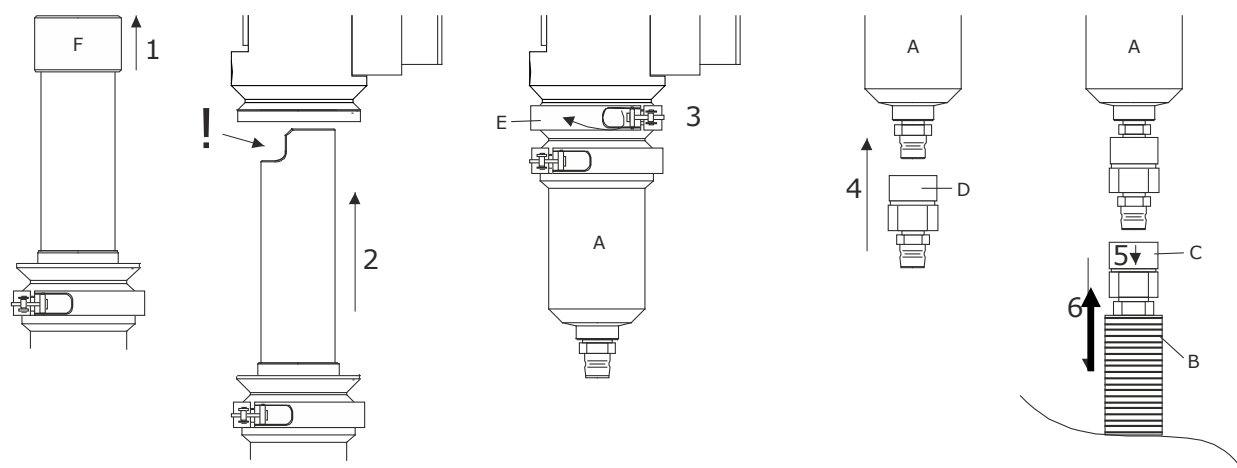

Figure 22. Filter cartridge installation
- > close the upper cartridge part by attaching the cap (7) to the mixing chamber (in case there is no separate cap available, the cap of the new prepared cartridge may be used)
- > insert the unloaded cartridge up into the heat exchanger and ensure that the opening at the upper part of the mixing chamber (marked with ! in Figure 22) is facing towards the probes. If the mixing chamber cannot be completely inserted into the heat exchanger, check the opening position by slightly turning the cartridge (2)
- > attach the upper quick fastener clamp to its place and close it (3) making sure it is securely and firmly tightened